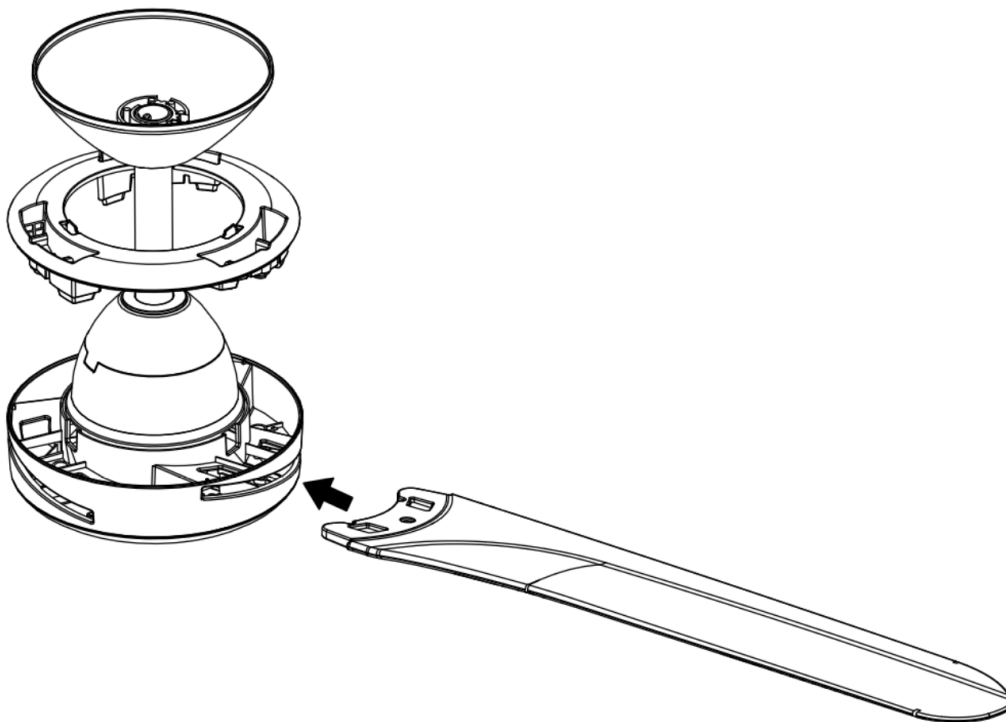

Fig. 4.2
2. Install the fan blades onto the motor assembly; (Fig.4.2)